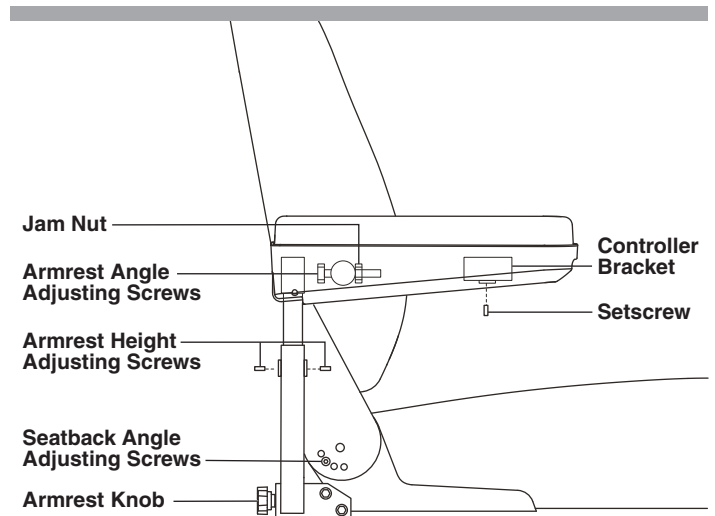

Figure 15. Seatback/Armrest Adjustment
1. Remove the adjusting screws from each seat hinge. **See figure 15.**
1. Locate the two armrest knobs on each side of the armrest receiver bracket. **See figure 15.**
1. Lift the armrest straight up so that it is perpendicular to the floor. **See figure 15.**
2. Loosen the setscrew on the controller bracket. **See figure 15.**